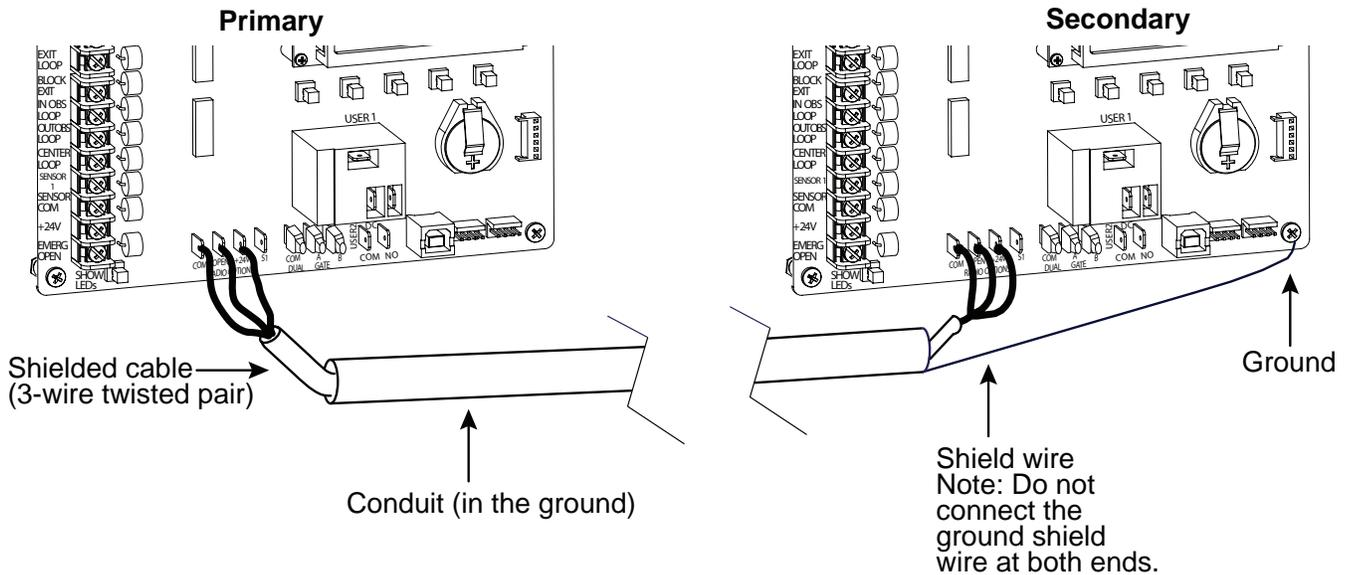

Figure 63. Primary-Secondary Pair Wiring Connections
- An electrical conduit for interconnecting wires must span between the two operators. The dual gate communication wires and any low voltage control wires must be installed in a conduit that is separate from the high voltage power wires. See Figure 63.
1. As shown in Figure 63, connect a two-pair twisted shielded communications cable to the DUAL GATE inputs in each unit. The inputs are located near the base of the Smart DC Controller. Be sure to connect the wires in pairs to the same terminal ports (A-A, B-B, and COM to COM) on both units. See Table 15.
2. Attach a ring terminal to the shield wire and connect it to the Smart DC Controller's convenient ground screw. Refer to Figure 63.